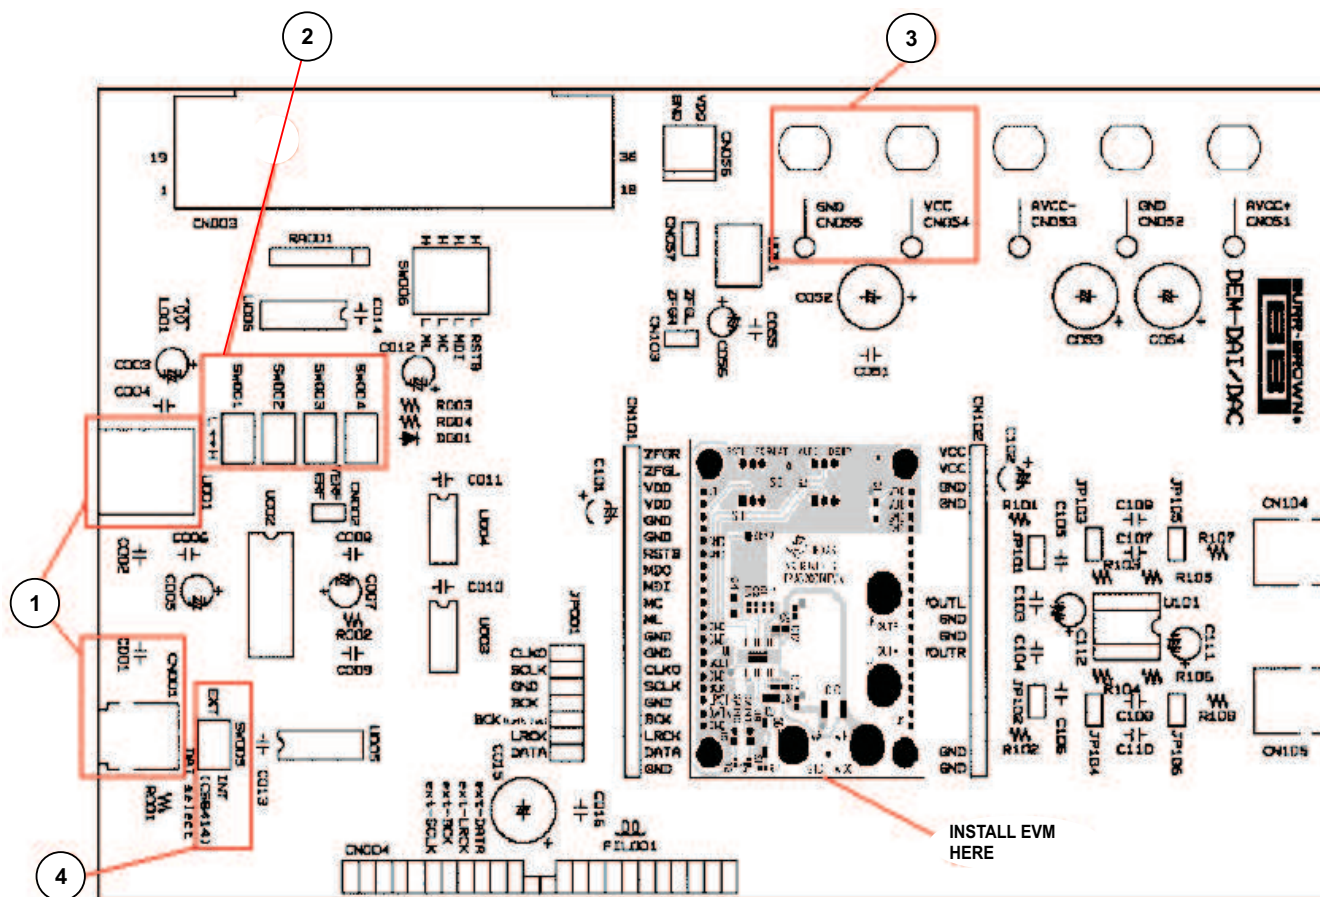

Figure 3. DEM-DAI/DAC Evaluation Platform
To use the TPA3200D1EVM with a DEM-DAI/DAC platform, follow these steps. The DEM-DAI/DAC platform consists of a 96-kHz digital audio receiver that accepts S/PDIF and optical inputs for direct interface to a digital audio source such as an audio precision or component CD/DVD player. This platform can be used to evaluate the audio performance of the TPA3200D1EVM using a measurement system such as the Audio Precision system. Figure 3 is referenced throughout this section. See the DEM-DAI1742 document (SBAU034) for detailed information on the operation of this board.
1. Install the EVM into the DEM-DAI/DAC platform in the location at the center of the platform. The header labeled **J1** should be attached to **CN101** on the DEM platform. The header labeled **J2** should be attached to **CN102** on the DEM platform. See Figure 3 for proper alignment.
2. Connect a CD/DVD player or audio precision via a single RCA cable from the coaxial (digital) output to **CN001** or use an optical cable to connect from the optical (digital) output to **U001** on the DEM platform. See Note 1 in Figure 3.
3. Set switches **SW001–SW003** on the DEM platform according to Table 3. Settings of this switch need to match the FORMAT selection on the TPA3200D1EVM. Other settings of **SW001–SW003** are not supported by the TPA3200D1EVM. See Note 2 in Figure 3.
- Set switch **SW005** to **INT (CS8414)**. See Note 4 in Figure 3.
- Connect a 5-V supply to **CN054** and **CN055** on the DEM-DAI/DAC platform. See Note 3 in the Figure 3. **CN054** should be connected to the positive and **CN055** connected to the negative side of the supply.